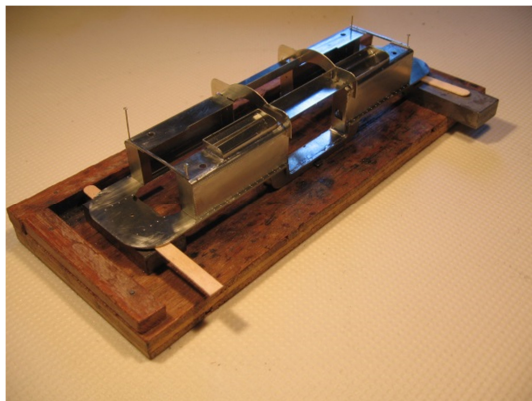

Fig. 65
98. Make up the two top tank stays (122).
99. The tank stays can be located with a couple of pins in each tank end. Fig 65 & 66.